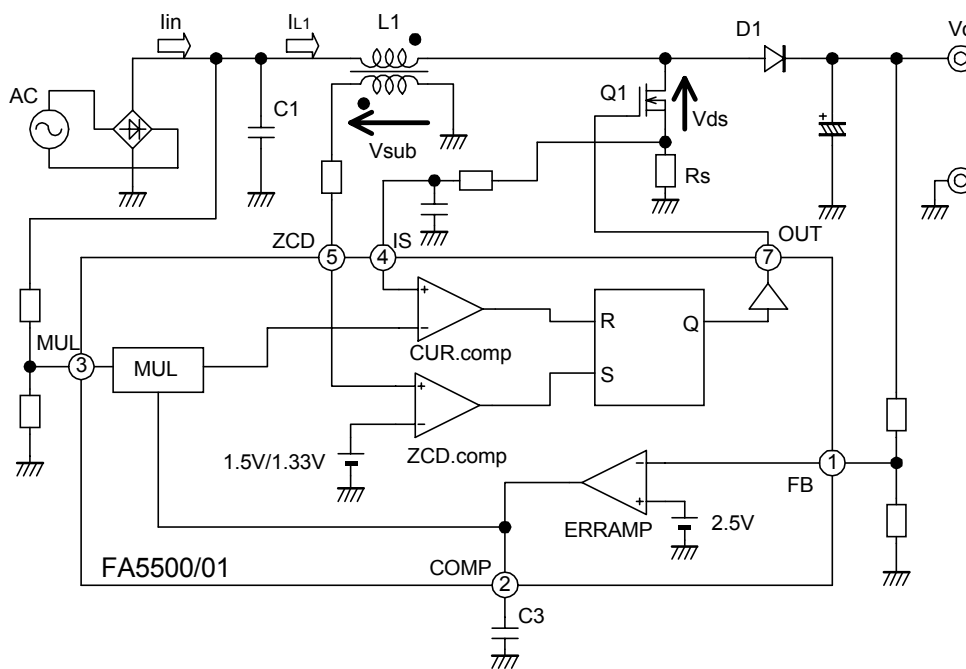

Fig.1 Outline of PFC converter circuit
FA5500/FA5501 are control ICs for a power factor correction converter using a boost type topology that operates in critical conduction mode. The operations, which are (1) Switching operation and (2) Power factor correction operation, are described here with the circuit shown in Fig. 1.
(1) Switching operation